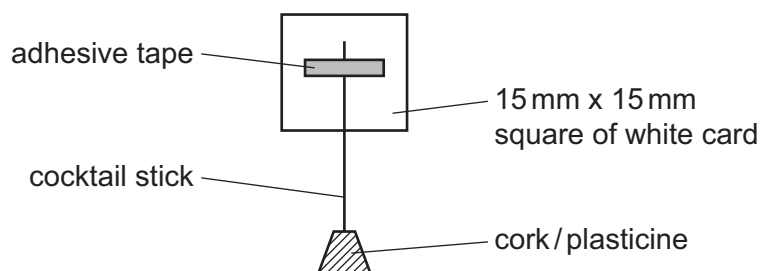

Fig. 3.2
- (v) An object consisting of a 15 mm x 15 mm square of white card attached to a cocktail stick, or similar and mounted securely in a cork or similar (e.g. a piece of plasticine) support. A possible arrangement is shown in Fig. 3.2.